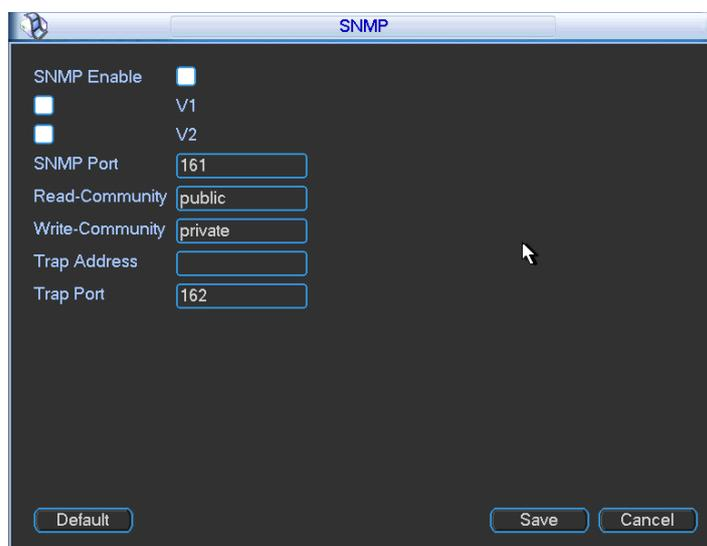

Figure 4-53
You can set in the following interface. See Figure 4-53.
- In Figure 4-53, check the box to enable the SNMP function. Input the IP address of the PC than is running the software in the Trap address. You can use default setup for the rest items.